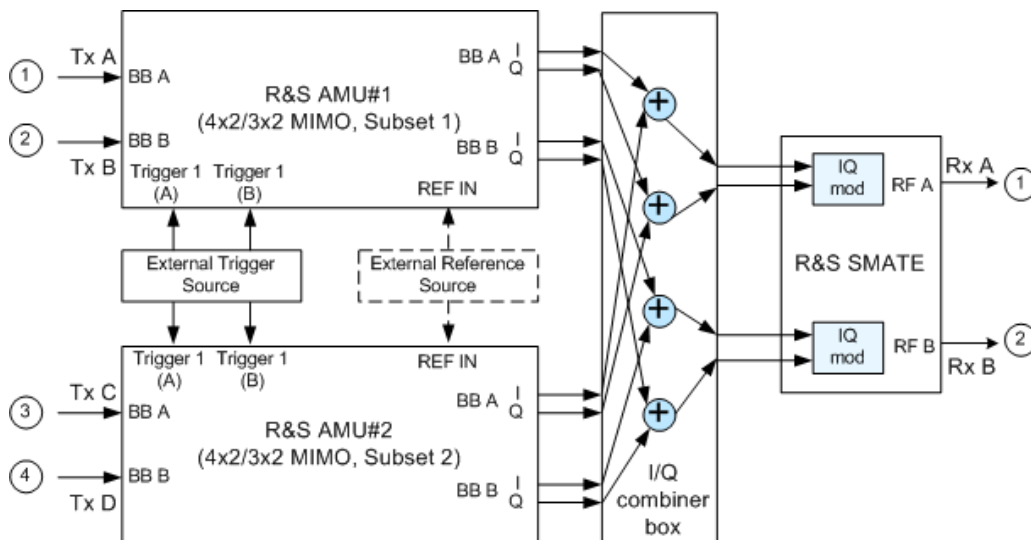

Figure 5-5: 4x2/3x2 MIMO up to 6GHz with two R&S AMUs, one R&S SMATE and one I/Q combiner
4. For simulation of a 4x2 or 3x2 MIMO mode up to 6 GHz, the I and Q outputs of both instrument have to be connected to the I/Q Combiner Box and the I and Q outputs of the I/Q Combiner Box have to be connected to the I and Q inputs of the R&S SMATE as shown on the Figure 5-5.